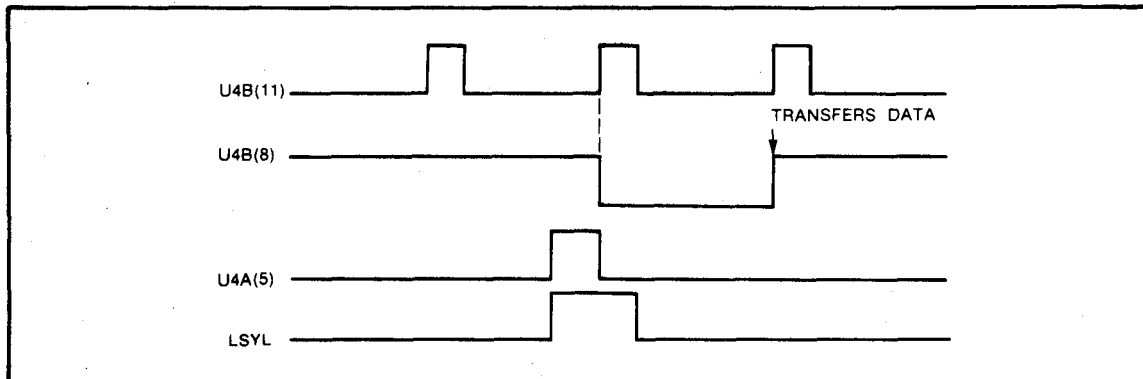

Figure 8-12. Data Transfer Timing in A10 Circuit
8-186 The lower byte is loaded into U16 and U11 when LSYL, decoded on A14, goes high. The data, which has been temporarily stored in U16, U11, and U17, is next transferred to U10, U15, and U7A by the operation of U4A and U4B. When LSYL goes high, a high is clocked into U4A(5) and is presented to U4B(12). The next positive transition at U4B(11) causes U4B(8) to go low, which clears U4A(5). The following positive transition at U4B(11) then clocks U4B(8) high. The low to high transition of U4B(8) loads the data into U10, U15, **and** U7A. Figure 8-12 shows the timing of this operation.